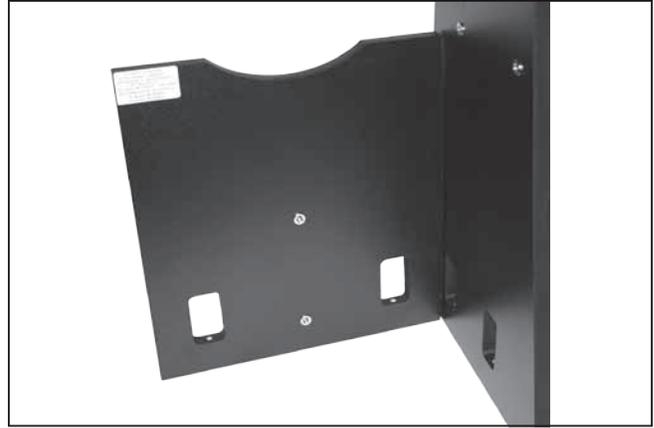

Figure 8. Secure the front panel to each side panel.
2. Connect the side panels to the front panel (**Figure 8**). Use the coarse thread socket-head screws for this. There are unthreaded pilot holes (without the metal collar) to align these pieces. Orient the side panels so the oval XTg label is facing outward. Orient the front panel so that the pilot holes for the handle and eyepiece rack face out. The side panel with the motor attached is the left panel. There are six screws total (three for each side) to assemble. Start by inserting the screws and turning by hand to ensure they are going in straight. When you begin to meet resistance use the 4mm hex key to complete this